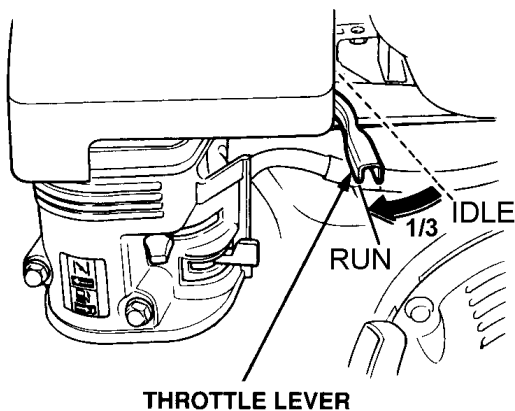

Figure 7. Throttle Lever (1/3 Start Position)
2. Move the throttle lever (Figure 7) away from the slow position, about 1/3 of the way toward the fast position.